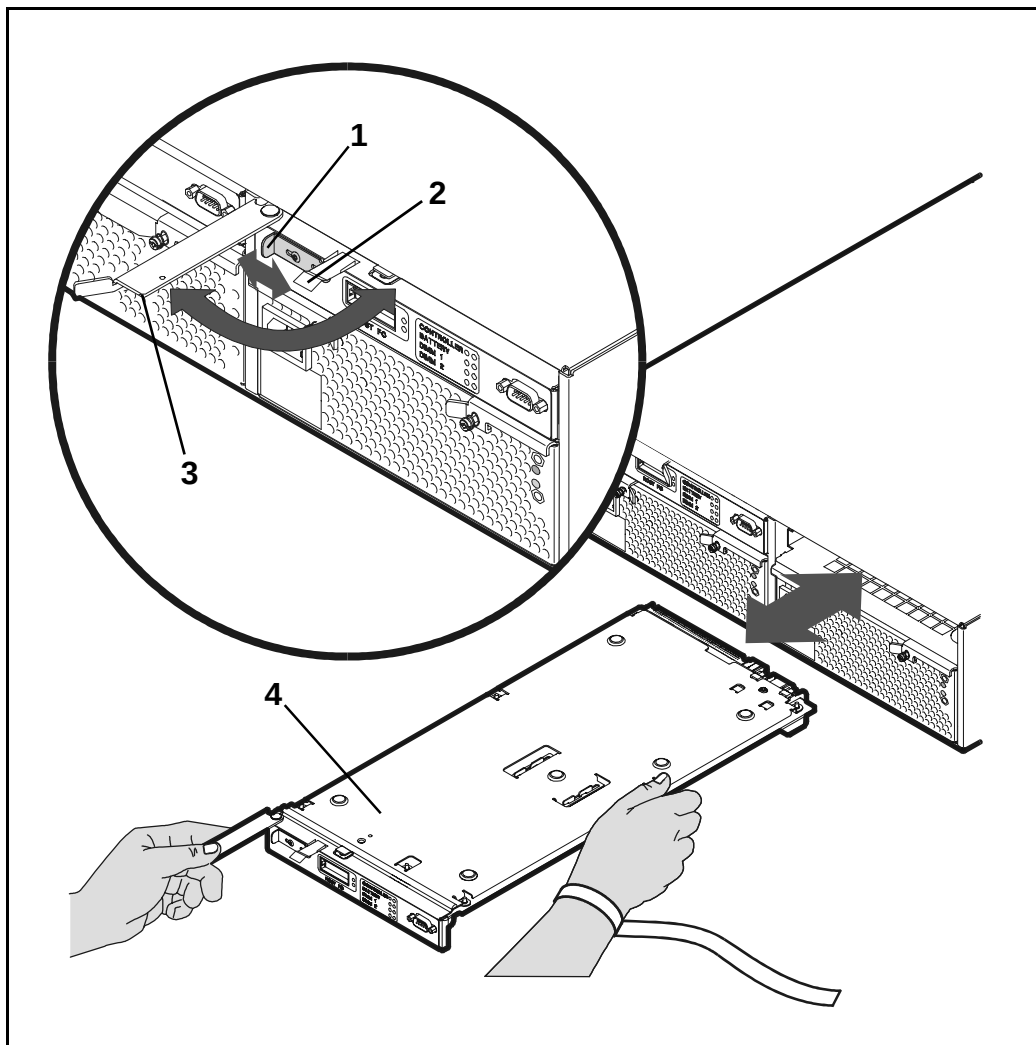
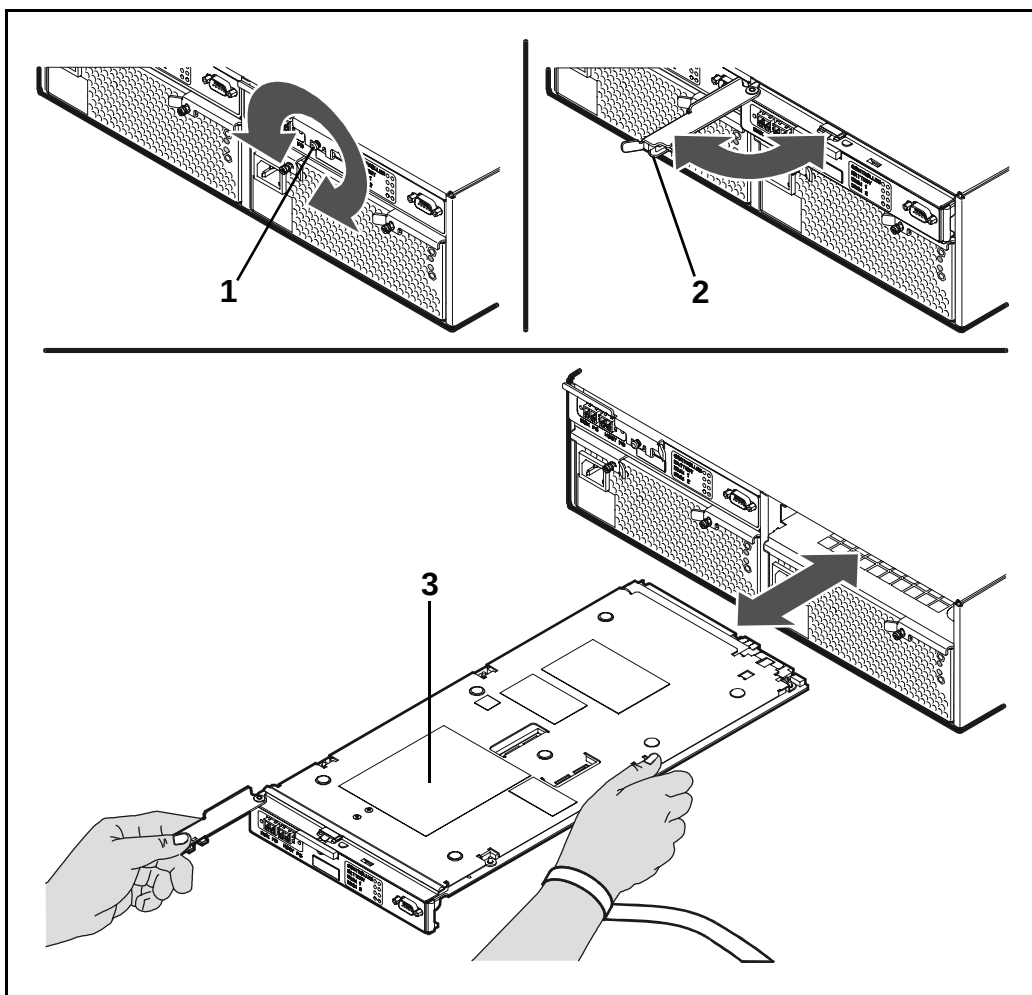

Figure 33 Removing & Replacing a Type A Array Controller Card
Figure 34 Removing & Replacing a Type B Array Controller Card
4. **Type A:** Slide the latch (Figure 33, 1) all the way to the left. **Type B:** Loosen the cam lever screw (Figure 34, 1) with a T-10 driver or flat-blade screwdriver.
5. **Type A:** Press down the lock (Figure 33, 2) and pull out the cam lever (3). **Type B:** Pull out the cam lever (Figure 34, 2).
6. Grasp the cam lever and slide the array controller card out 4 inches (10 cm) (Figure 33 or Figure 34).
3. **Type A only:** Slide the latch (Figure 33, 1) all the way to the left.
4. **Type A:** Press down the lock (Figure 33, 2) and pull out the cam lever (3). **Type B:** Pull out the cam lever (Figure 34, 2).
5. Grasp the edges of the array controller card with both hands and push it firmly into the slot. (Figure 33 or Figure 34).
6. Push in the cam lever (Figure 33, 3 or Figure 34, 2) until it clicks into place.
7. **Type A only:** Slide the latch (Figure 33, 1) all the way to the right.
8. **Type B only:** Tighten the cam lever screw (Figure 34, 1).